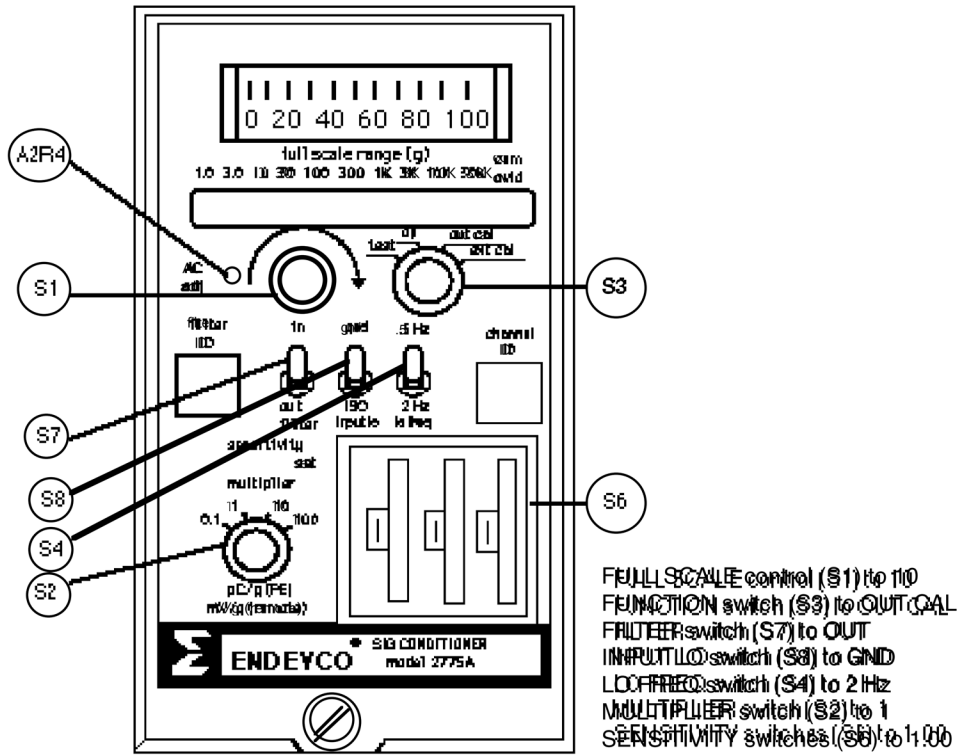

FIGURE 3-2: FRONT PANEL CONTROLS
On the back panel, set the MODE switch (S5) to PE. On the front panel, from top to bottom, left to right, set the following controls as indicated (figure 3-2).
Set the FUNCTION switch (S3) to OUT CAL. Monitor AC OUTPUT (J12) with a Frequency Counter and an oscilloscope and verify that the internal oscillator sine wave is between 950 and 1050 Hz (Figure 3-2).
1. Establish a desired full scale AC output voltage. This voltage is adjustable from 1 to 10 V pk by means of the AC ADJ potentiometer (See Figure 3-2.) It is normally set at the factory for a full scale output of 10 volts peak unless specified otherwise.
The full scale AC output voltage will depend on the setting of the AC ADJ potentiometer (Figure 3-2), and is adjustable from 1 to 10 volts peak. It is normally set at the factory for 10 volts peak except when specified otherwise. The AC output is capable of delivering up to 85 mA pk, which is sufficient to drive most high frequency galvanometers or long cables.